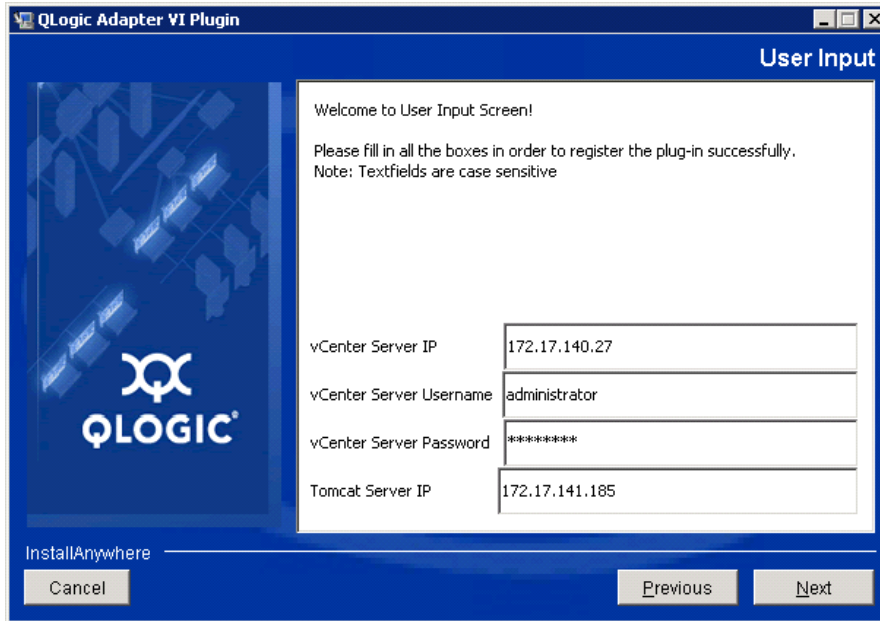

Figure 2-14. QLogic Adapter VI Plug-in Wizard: User Input
5. Type the requested information in the boxes, then click **Next** (see Figure 2-14).